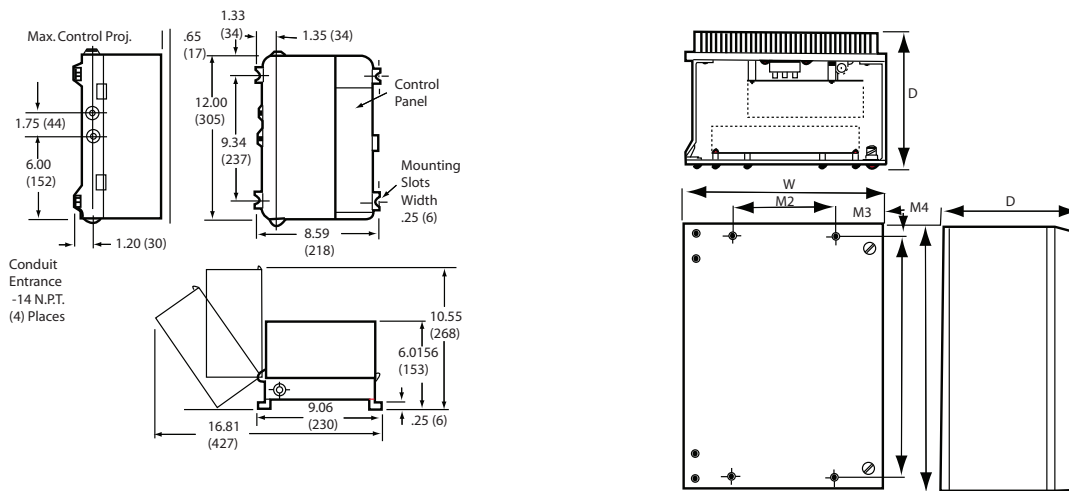

Figure 2. Enclosure Dimensions
1. Surface mount the controller in a dry location with the mounting holes (or tabs) provided. The standard enclosure should not be used where a watertight, weatherproof, or explosion proof enclosure is required. See Figure 2 or 3 for mounting dimensions.